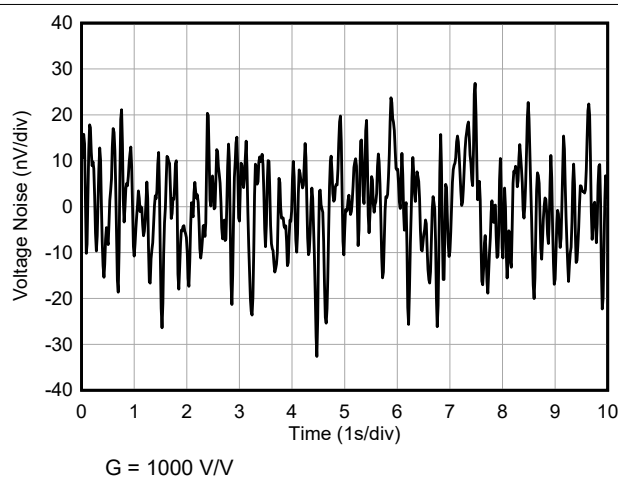

Figure 7-29. 0.1-Hz to 10-Hz RTI Voltage Noise
0.1-Hz to 10-Hz RTI Voltage Noise, $G = 1000$	<a href="#">Figure 7-29</a>